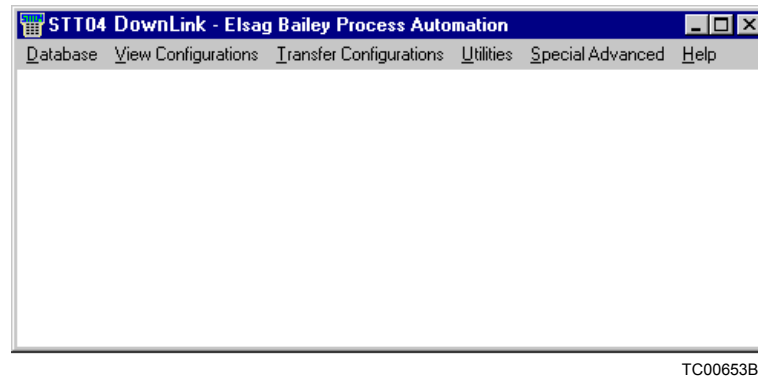

Figure O-3. Utilities Software Screen
4. Type your user name and password and click *OK*. The DownLink software application opens (Fig. O-3).